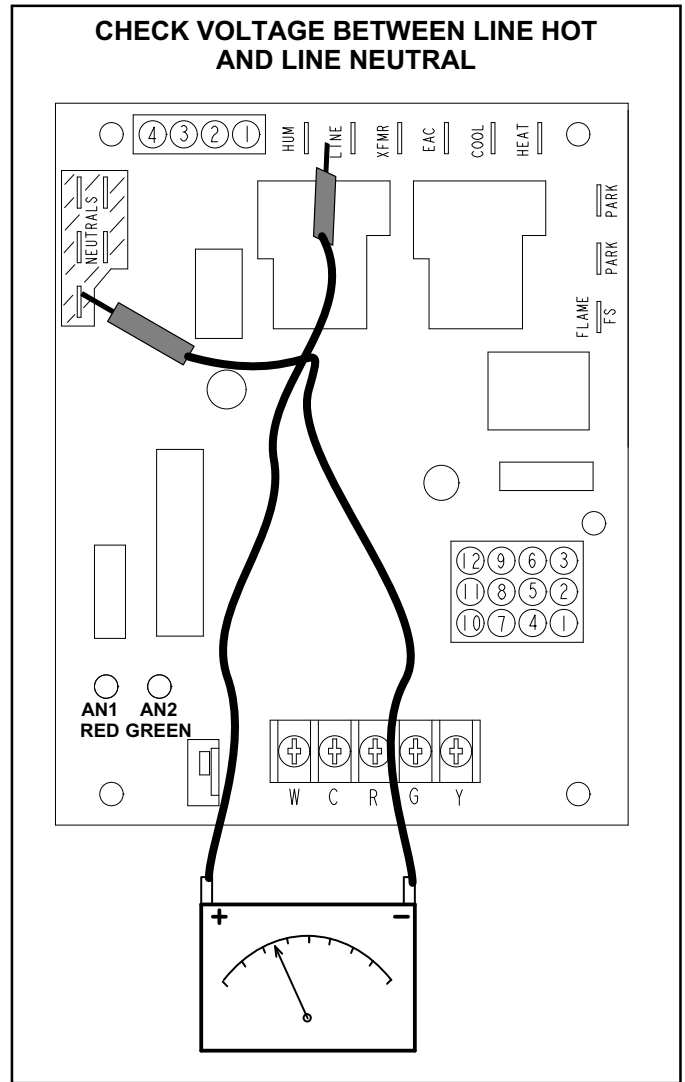

FIGURE 16
- 2 - In addition, measure the AC voltage from Line Hot to Line Neutral (spade terminals) on the integrated control. See figure 16. This voltage should be in the range of 196 to 253VAC.